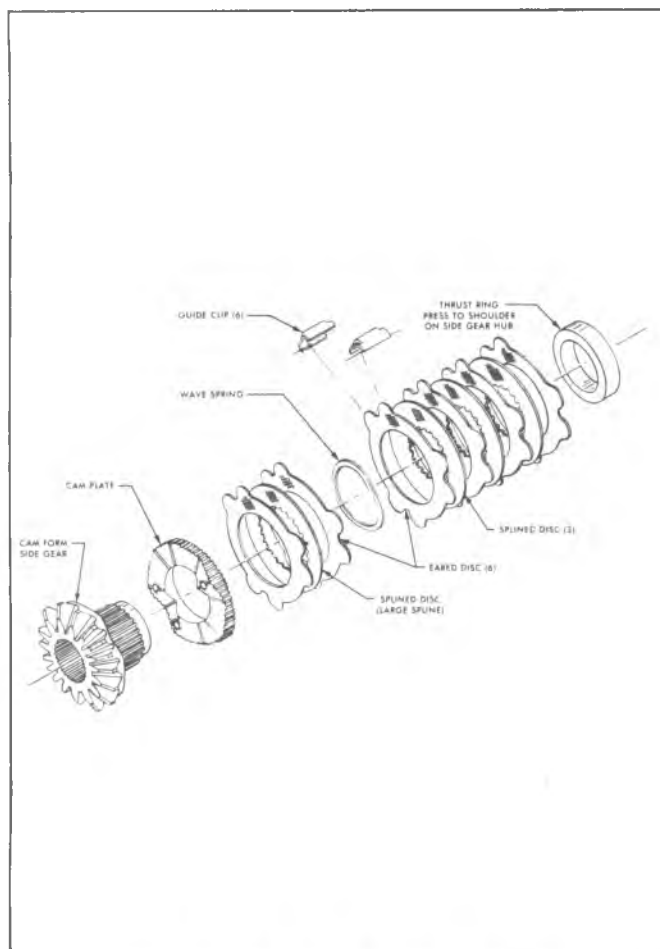

Fig. 4B-9H-Cam Plate and Clutch Discs
If cam plate or clutch discs must be replaced, the cam gear sub-assembly must be serviced as follows: Refer to Figure 4B-9H.
3. Assemble onto cam plate (2) eared discs, (1) splined disc, and (1) : wave spring alternately as shown, Fig. 4B-9H.
4. Assemble onto gear hub: (4) eared discs and (3) splined discs alternately as shown. Begin and end with an eared disc.